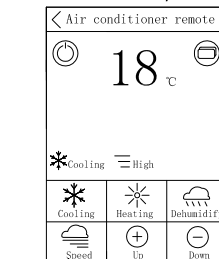

Fig.3
- 2.) Control remote: select remote control ID to enter the remote control interface (as shown in Fig. 3). For the first time use, enter remote control configuration interface, set the remote control according to its work instructions.